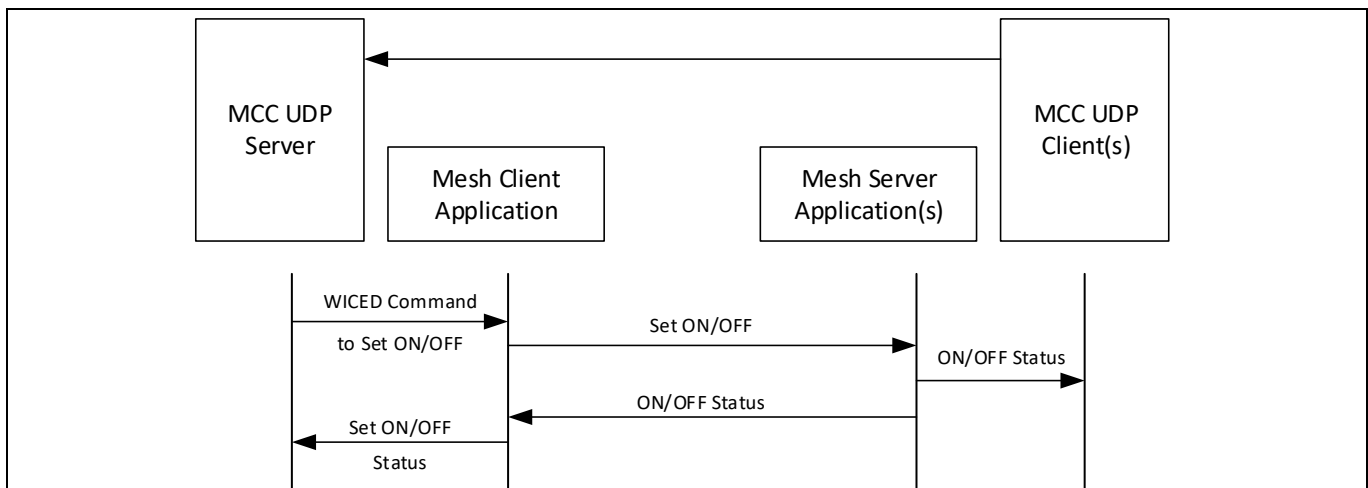

Figure 4 Direct/One-way Approach
4. When the MCC application attached to the Mesh Application Servers receive events from the board, they will forward the same to the UDP Server, which will collect all incoming logs along with the IP address of the machine they are originating from and the timestamp. At this point, the logs from one MeshApplication Client and the MeshApplication Servers are consolidated, as shown in Figure 4.